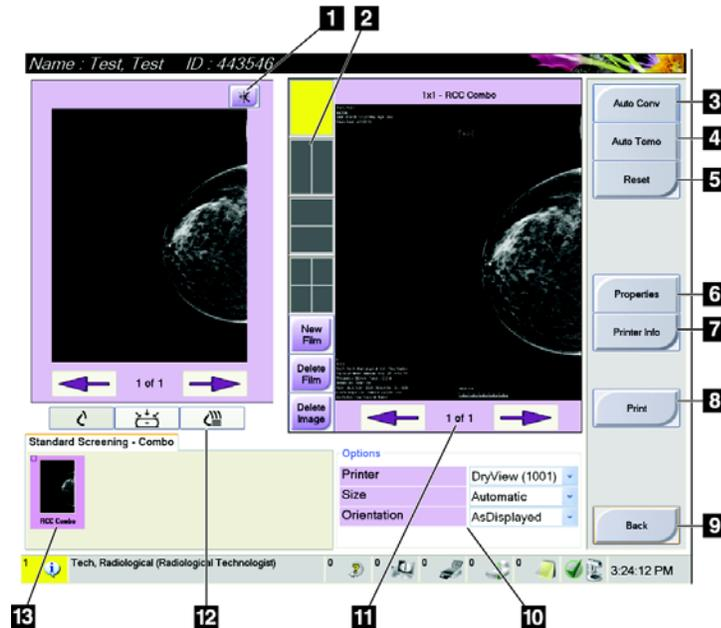

Figure 3-10: The Print Screen
Legend for Figure 3-10
1. From the Procedure screen, select the **Print** button. The Print Screen displays. Refer to Figure 3-10 to prepare your print information.